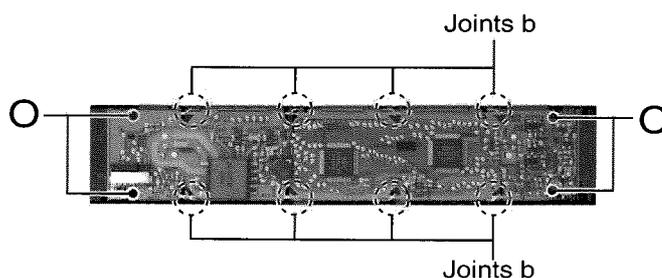

Fig.10
**■ Removing the Front Board (See Fig.10)**